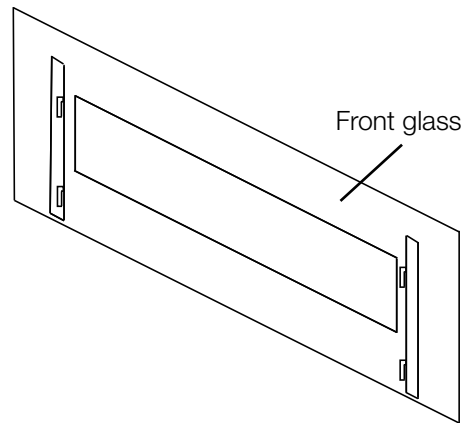

Fig. 4-2
- Carefully lift the glass up and away from the appliance (**Fig. 4-2**).